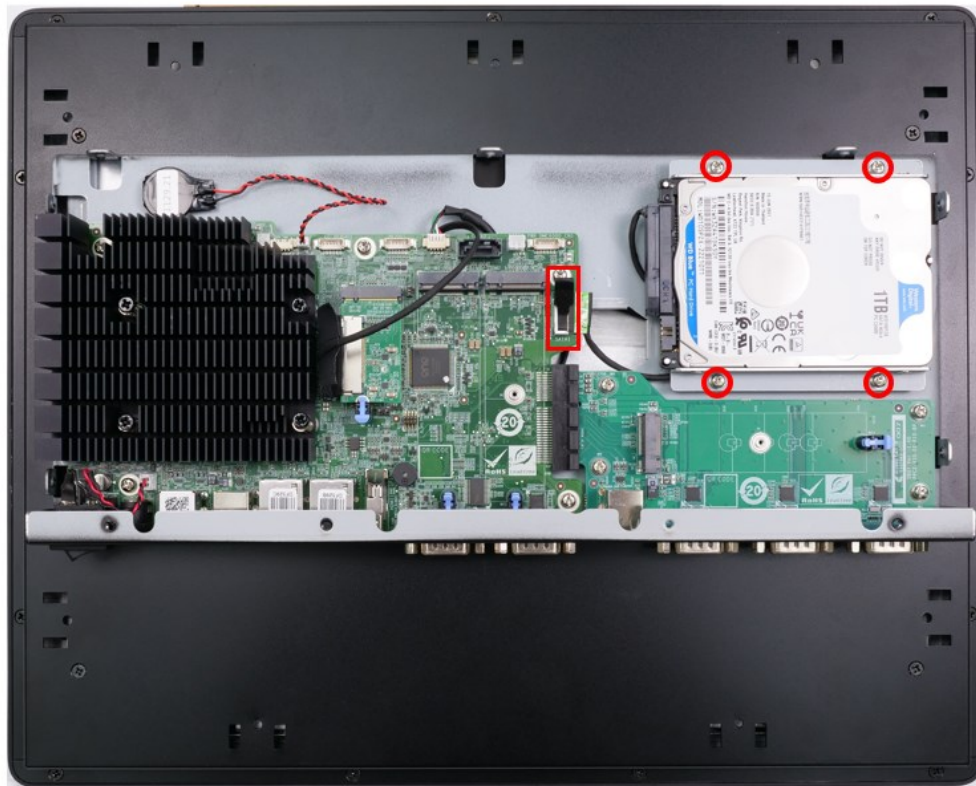

Figure 3-4: PPC2-Cxxx-EHL HDD Installation
Step 4: Reinstall the HDD bracket into the PPC2-Cxxx-EHL Series and fasten the four hard drive bracket screws (**Figure 3-4**). Connect the SATA and SATA power cables.